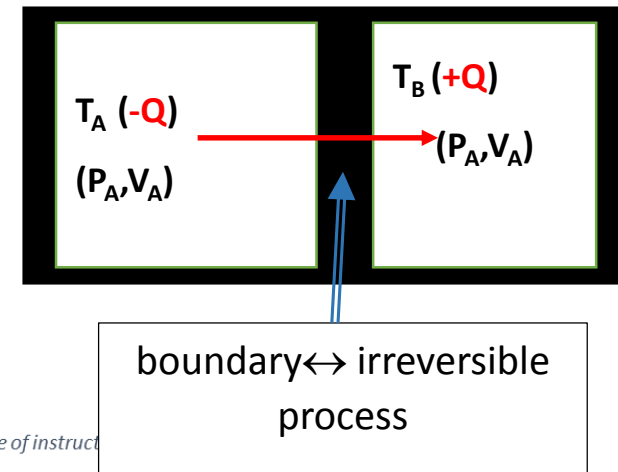

Fig.6 . Schematic illustration of the heat transport phenomena in irreversible way
1.3.A **Transport phenomena**: system evolution towards equilibrium realized by the transport of heat (Fig.6), mass or  $\delta F/\delta t = \delta w/\delta t$ . Cased by the difference in the following intensive variables: